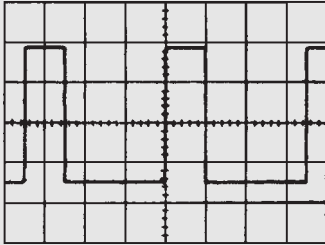

Figure 10.18
**Problem 8.** For the oscilloscope display of a pulse waveform shown in Fig. 10.18 the 'time/cm' switch is on 50 ms/cm and the 'volts/cm' switch is on 0.2 V/cm. Determine (a) the periodic time, (b) the frequency, (c) the magnitude of the pulse voltage.